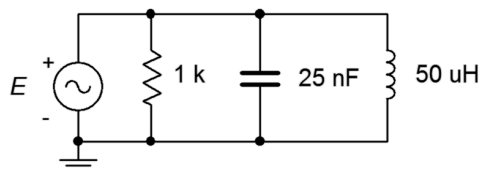

Figure 8.9
23. For the circuit shown in Figure 8.9, determine the resonant frequency, system Q and bandwidth. If the source is 5 volts, determine the resistor, inductor and capacitor currents at resonance. Assume the inductor's Q is 40.